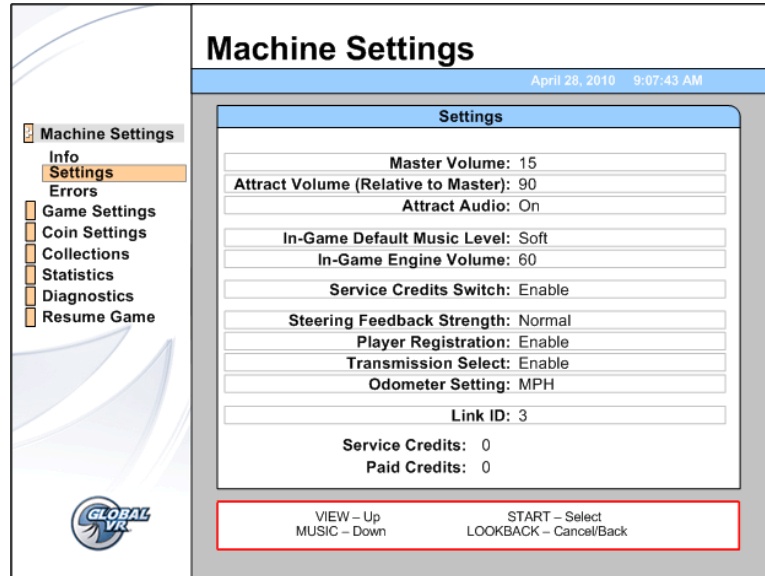

Figure 11. Machine Settings Menu
6. Some menu items, such as volume levels (see Figure 11 on page 19) use sliders to set numeric values. A slider, as shown below, will appear when you highlight the item and press **START**. To set the slider, press the **VIEW** and **♪** buttons to increase or decrease the value, and then press **START** again to save the selected value.